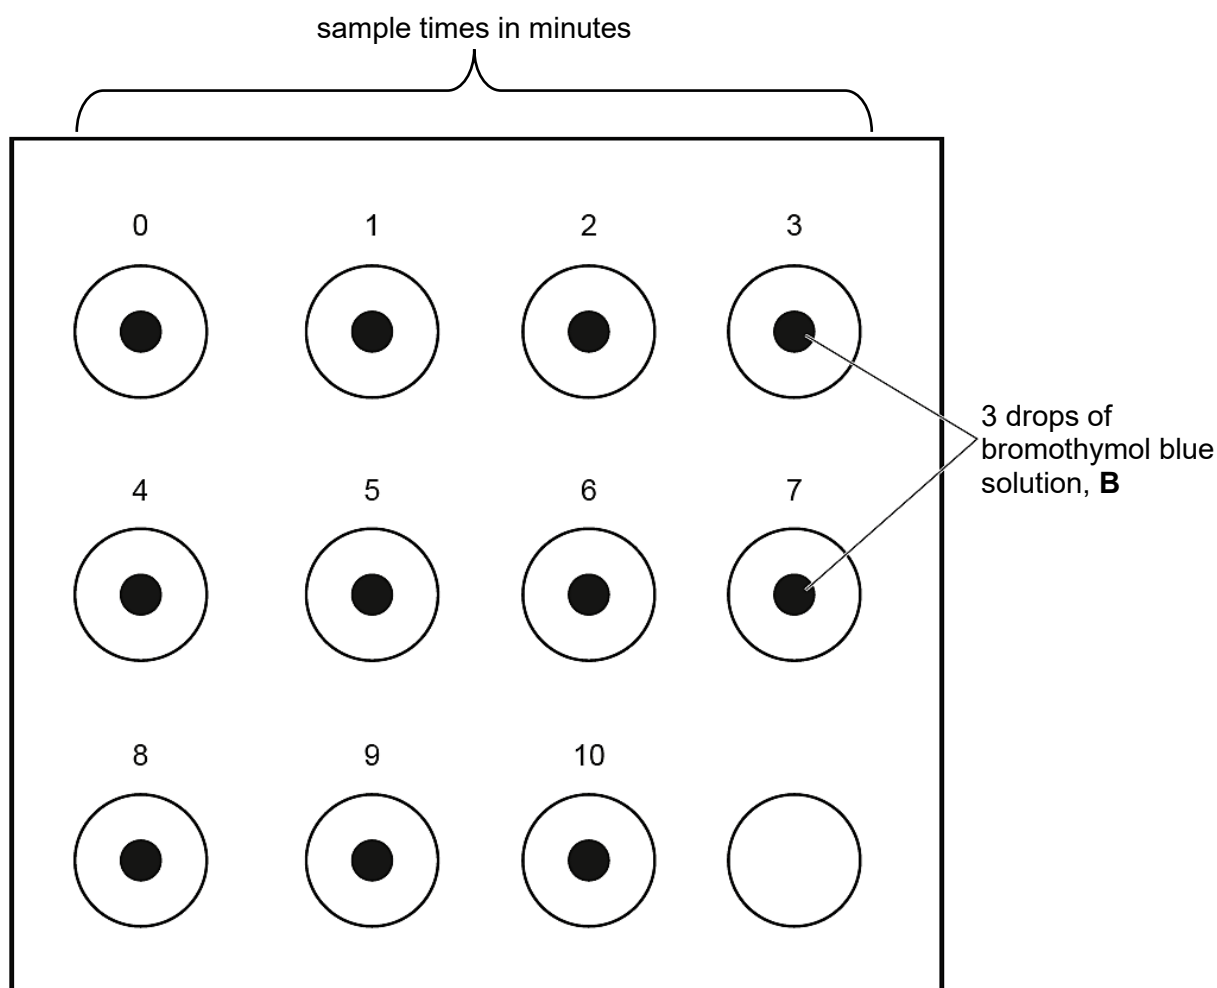

Fig. 1.2
step 6 Label the spotting tile with the sample times in minutes, as shown in Fig. 1.2.
step 7 Put 3 drops of **B** onto the spotting tile at each sample time, as shown in Fig. 1.2.